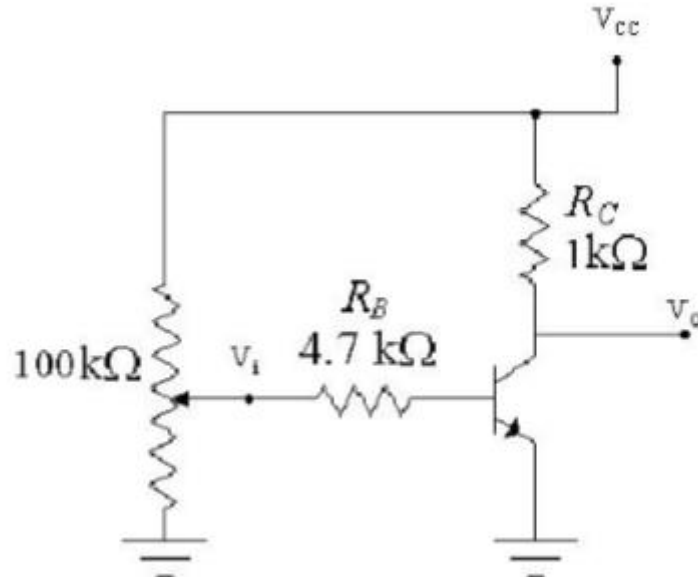

Figure 2 : Circuit Diagram .
1. Construct the circuit as show in Figure 2, using BJT, 100 k $\Omega$  potentiometer, and two resistors. Adjust the dc supply to 5 volts.
4. Remove the potentiometer from the circuit of Figure 2, and connect a function generator at the input of the inverter ( $V_i$ ). Adjust the function generator to get a triangular waveform of 6V (Peak-to-Peak) at 60 HZ. Observer  $V_i$  on channel 1 and  $V_o$  on channel 2 of the oscilloscope. Plot these waveforms on a graph paper with proper scales.